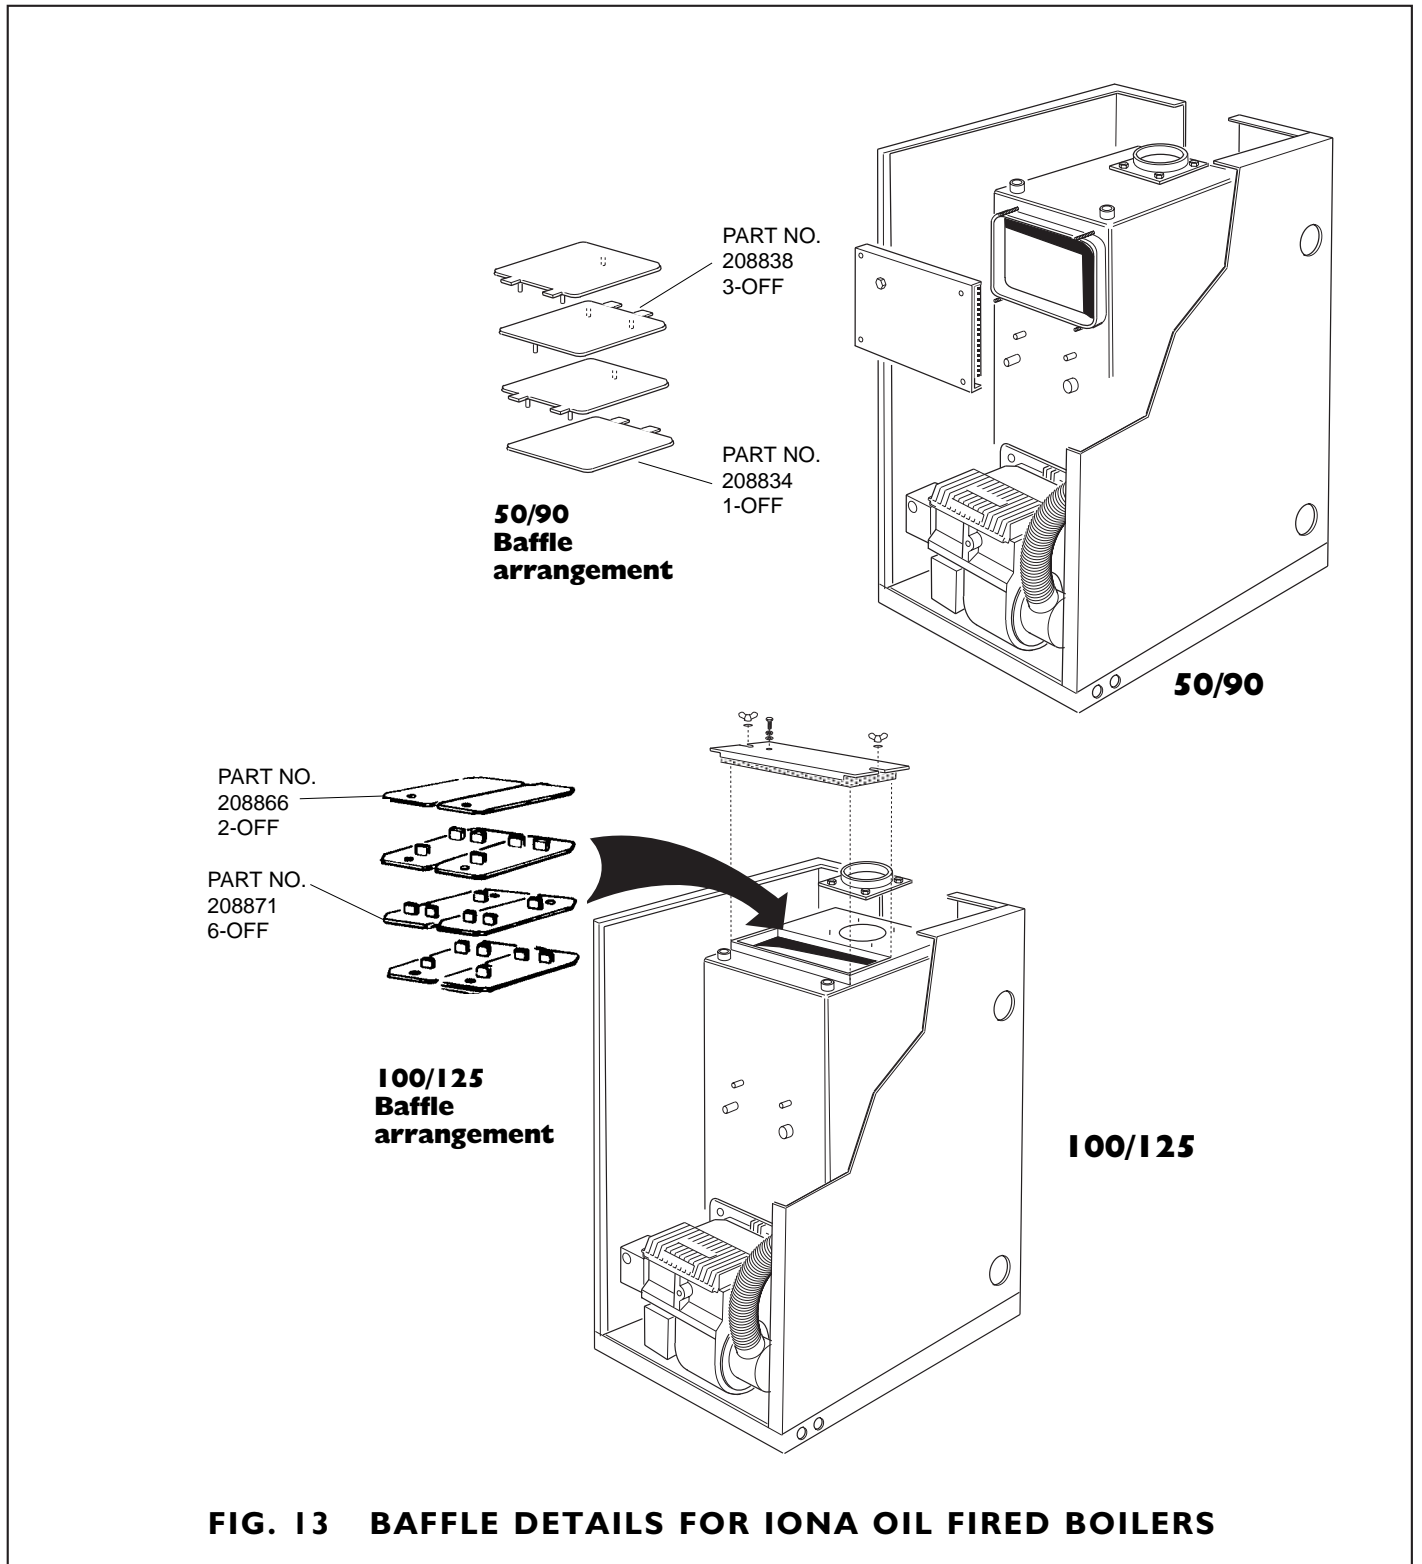

FIG. 13 BAFFLE DETAILS FOR IONA OIL FIRED BOILERS
1. Remove flue-cover and lift out flue-baffles (See Fig. 13).
4. Replace flue-baffles in the correct arrangement (See Fig. 13 for order of assembly). Refit the flue-cover and fully tighten wing-nuts to make a gas tight seal.